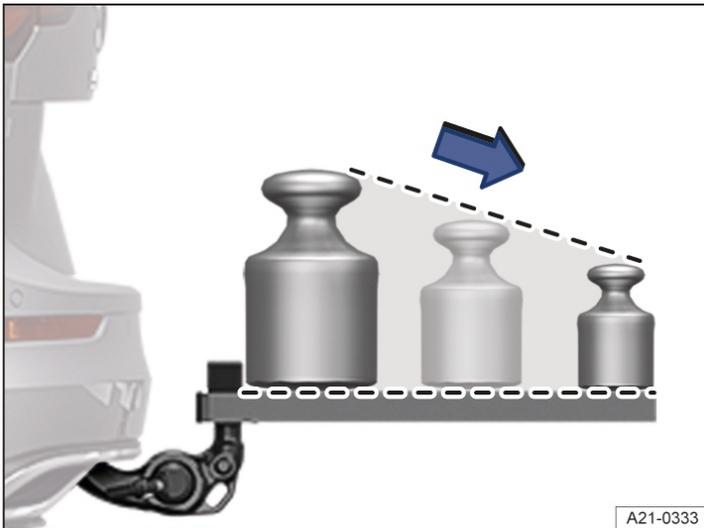

Fig. 1 Recommended weight distribution on the rear carrier system.
3. Hold the bicycle carrier preparation → Fig. 1 ① with one hand → ⚠.
4. Use your other hand to pull out the handwheel → Fig. 1 ② in the direction of arrow → Fig. 1 ④ and hold it in this position.
5. Turn the handwheel → Fig. 1 ② in the direction of arrow until it engages → Fig. 1 ⑤.
6. Hold the handwheel → Fig. 1 ② in this position and pull the bicycle carrier preparation out of the mounting. The bicycle carrier preparation is now pre-tensioned.
7. Release the handwheel → Fig. 1 ② and stow the pre-tensioned bicycle carrier preparation safely in the transport bag. Secure the bag at one of the fastening rings in the luggage compartment.
Position heavy items as close as possible to the bicycle carrier preparation → Fig. 1.